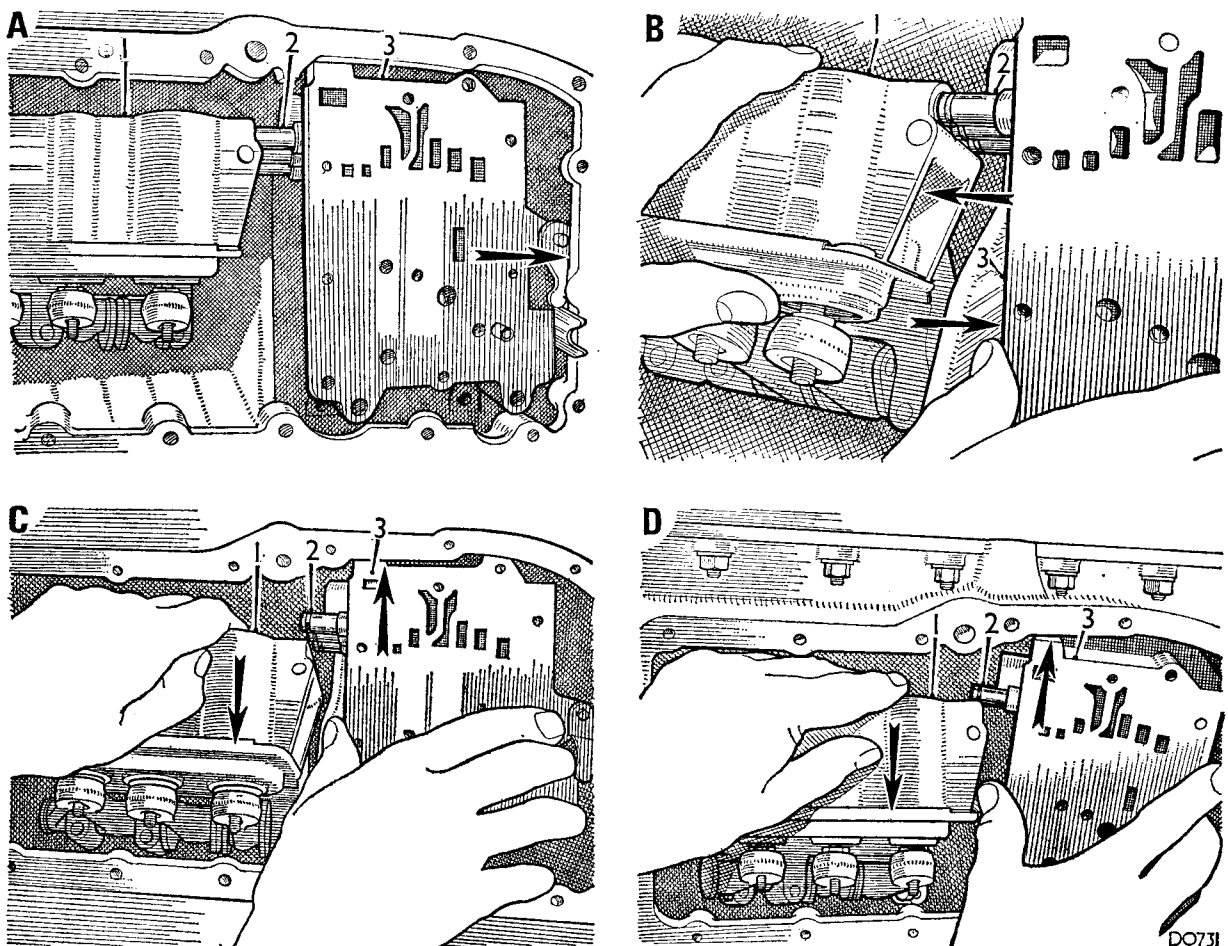

Fig. Fa.28
- (31) Remove the valve block lid and valve chest.
- (32) Remove the pipe chest as shown in the operation sequence in Fig. Fa.28 after pulling it outwards to release it from the bobbins and to disconnect the governor linkage.
- (33) Refer to Fig. Fa.28.